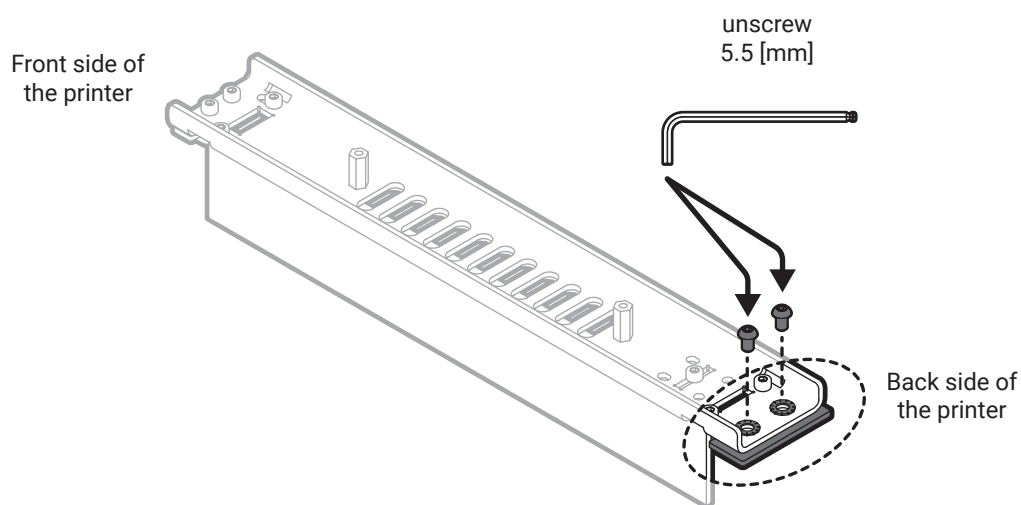

Fig. 5 Screw the Recoater blade with the Linear bearing washer I onto the bearing.
16. Position the Recoater blade correctly on the bearing and screw it together using a 4 mm allen key (fig. 5).